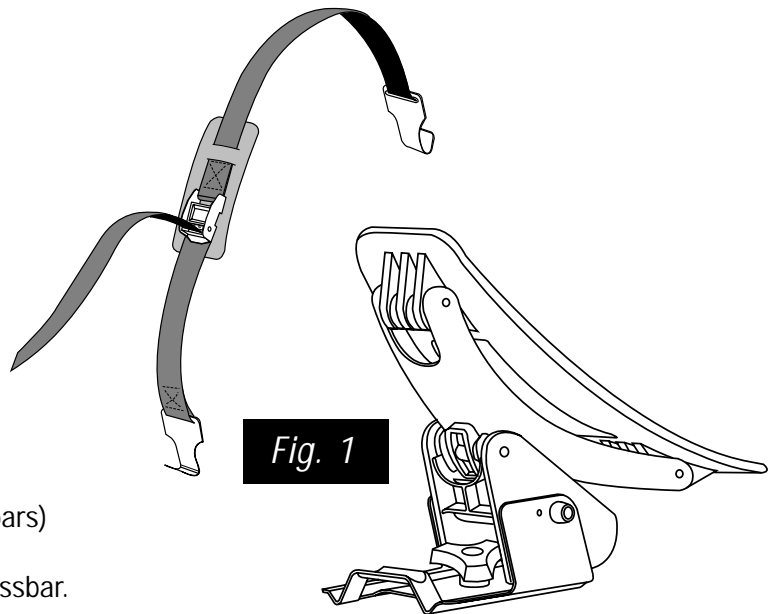

Fig. 1
10. Slide a coated hook from one of the Web Strap Sets into the Hook fastener on a front Cradle (see figures 1 and 6). Carefully pass the opposite end of the Web Strap over the kayak to the other side.